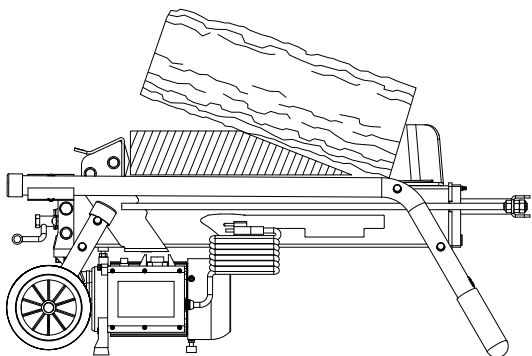

Figure 6
2. Once the log pusher completely stops at its starting position, insert a wood wedge under the jammed log. (SEE FIGURE 6)